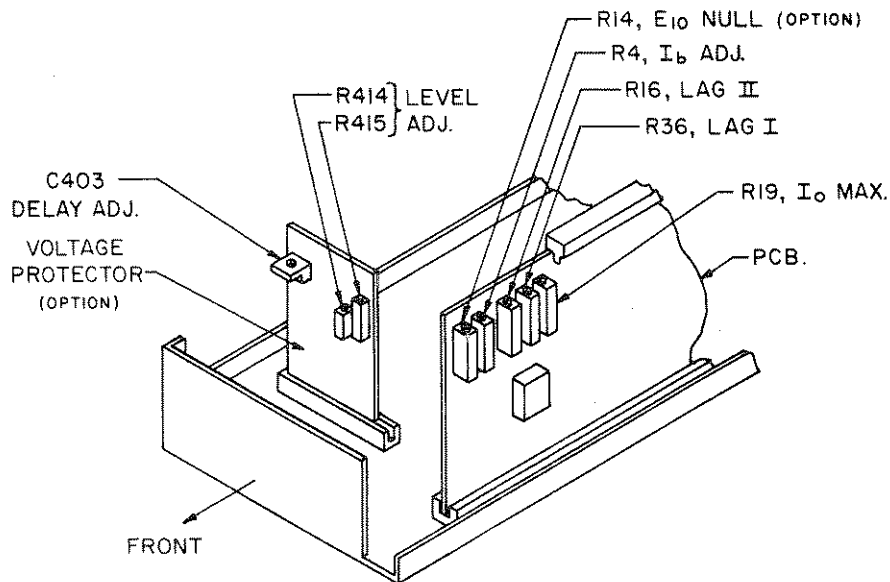

FIG. 2-1 LOCATION OF INTERNAL ADJUSTMENTS (NOT APPLICABLE TO “-HS” MODELS)
- c) INTERNAL ADJUSTMENTS AND CALIBRATIONS: Refer to FIG. 2-1 and TABLE 2-1.
- d) (Models suffixed "-VP" only) Check the "crowbar" action of the overvoltage protector by first adjusting the VOLTAGE CONTROL to about one quarter of the rated output voltage. Locate the "V_{limit}" adjustments (R414,415, refer to FIG. 2-1) and turn the "Coarse" adjustment (R415) slowly counter clockwise until the output voltage goes suddenly to zero as observed on the panel meter. Turn AC POWER SWITCH "off". Turn the coarse "V_{limit}" control (R415) fully clockwise again.
3-15 Both inaccuracies, the slightly larger bridge current (I_b) and the small negative offset voltage (E_{io}) may be adjusted to provide a linear and precise programming ratio. Refer to FIG. 2-1 for the location of the calibration controls.